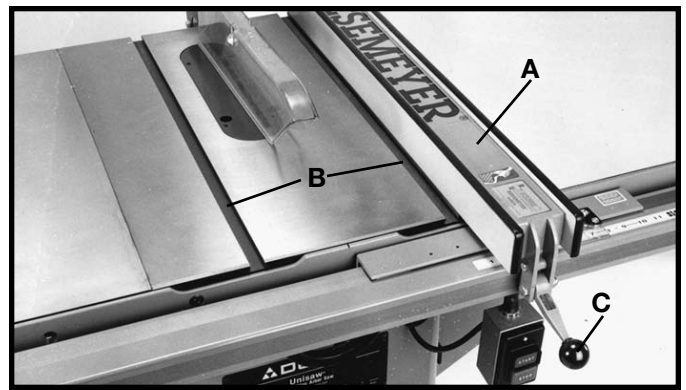
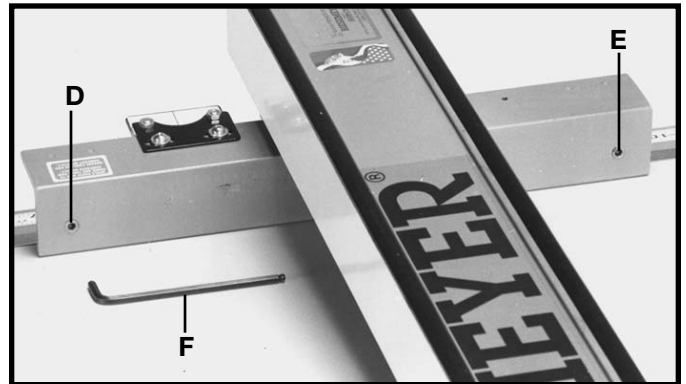
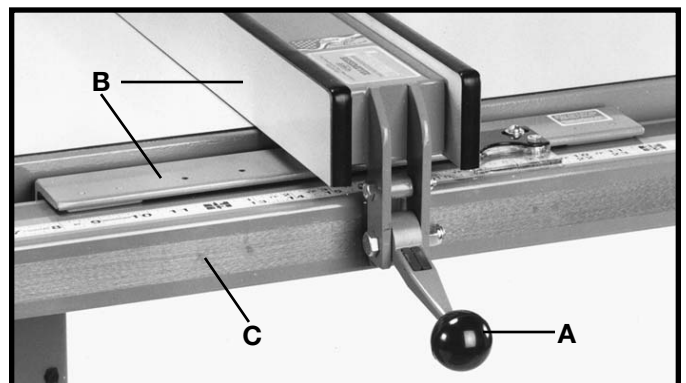

Fig. 116
Fig. 117
Fig. 118
The fence (A) Fig. 116, must be adjusted so it is parallel to the miter gage slots (B). To check and adjust, move fence (A) until the bottom edge of the fence is in line with the edge of one of the miter gage slots as shown, and push down on the fence clamping lever (C). Check to see if the fence (A) is parallel to the miter gage slot, the entire length of the table. If an adjustment must be made, lift up fence locking lever (C) and raise fence up off the guide tube, as shown in Fig. 117. Slightly tighten or loosen one of the two adjusting screws (D) or (E) Fig. 117, using a 3/16" allen wrench (F), not supplied. Replace the fence on the guide tube and check again to see if the edge of the fence is parallel with the miter gage slot the entire length of the slot. Repeat this adjustment until you are sure the fence is parallel with the miter gage slot.
When the fence locking handle (A) is pushed to the down position, as shown in Fig. 118, the fence assembly (B) should be completely clamped to the guide tube (C). If the fence assembly (B) is not completely clamped to the guide tube (C) when the handle (A) is pushed down, as shown in Fig. 118, lift up handle (A) and raise fence assembly (B) up off the guide tube (C). Slightly tighten the two adjusting screws (D) and (E) Fig. 117, using a 3/16" allen wrench (F) not supplied. Adjusting screws (D) and (E) Fig. 117, should be tightened an equal amount. Replace fence onto the guide tube and recheck to see if the fence assembly (B) Fig. 118, is completely tightened to the guide tube (C) with the locking handle (A) pushed down. Adjust further if necessary.